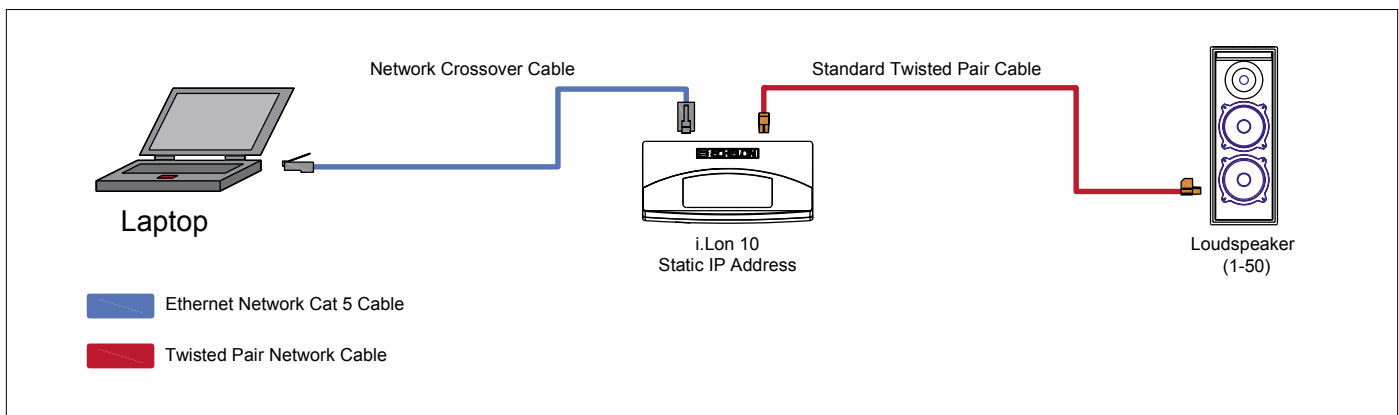

Figure 3.7. A simple i.LON 10 network setup
3. Connect the i.LON 10 Ethernet Adapter's 10BaseT Ethernet port to an Ethernet Hub/Switch (TCP/IP network) that can communicate with your PC or use a crossover Ethernet cable to connect the i.LON 10 to your PC directly (Figure 3.7).